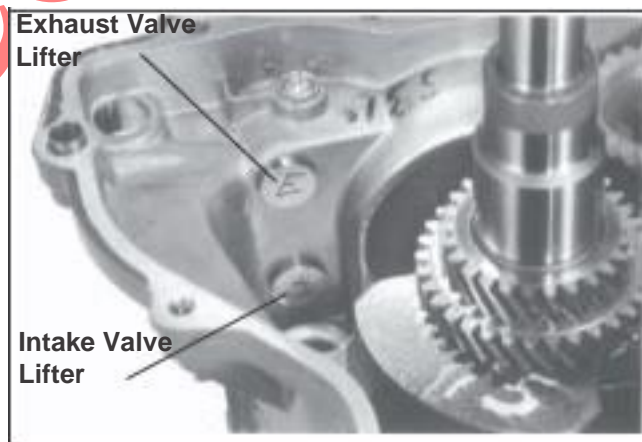

Figure 9-48. Identifying Hydraulic Lifters.
2. Mark or identify the hydraulic lifters as either intake or exhaust. See Figure 9-48. Remove the lifters from the crankcase.